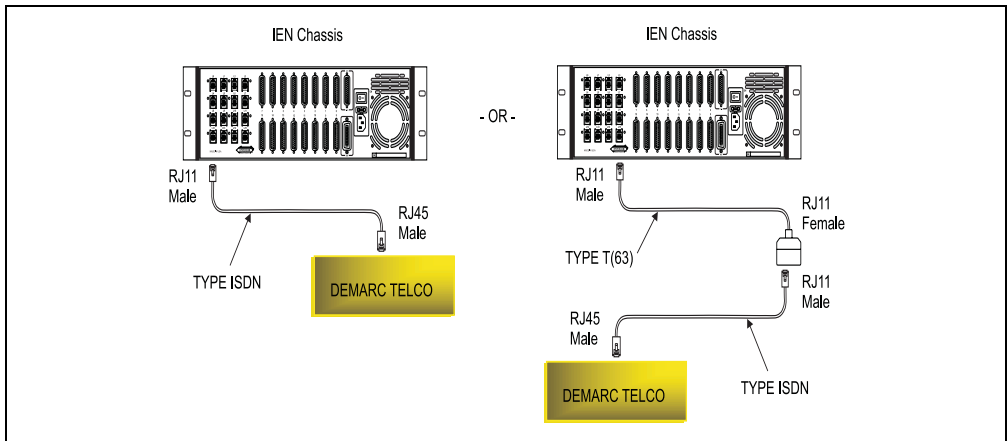

Figure 4-23 Type ISDN Cable Connection
The Type ISDN male RJ45 connector plugs into the line port on the IEN 2000, IEN 3000, IEN 4000 or IEN 5000 chassis. The Type ISDN male RJ45 connector is connected to the Network Terminator. The Type T(63) cable can be used with the Type ISDN cable. Figure 4-23 illustrates the cable connection for the Type ISDN cable.